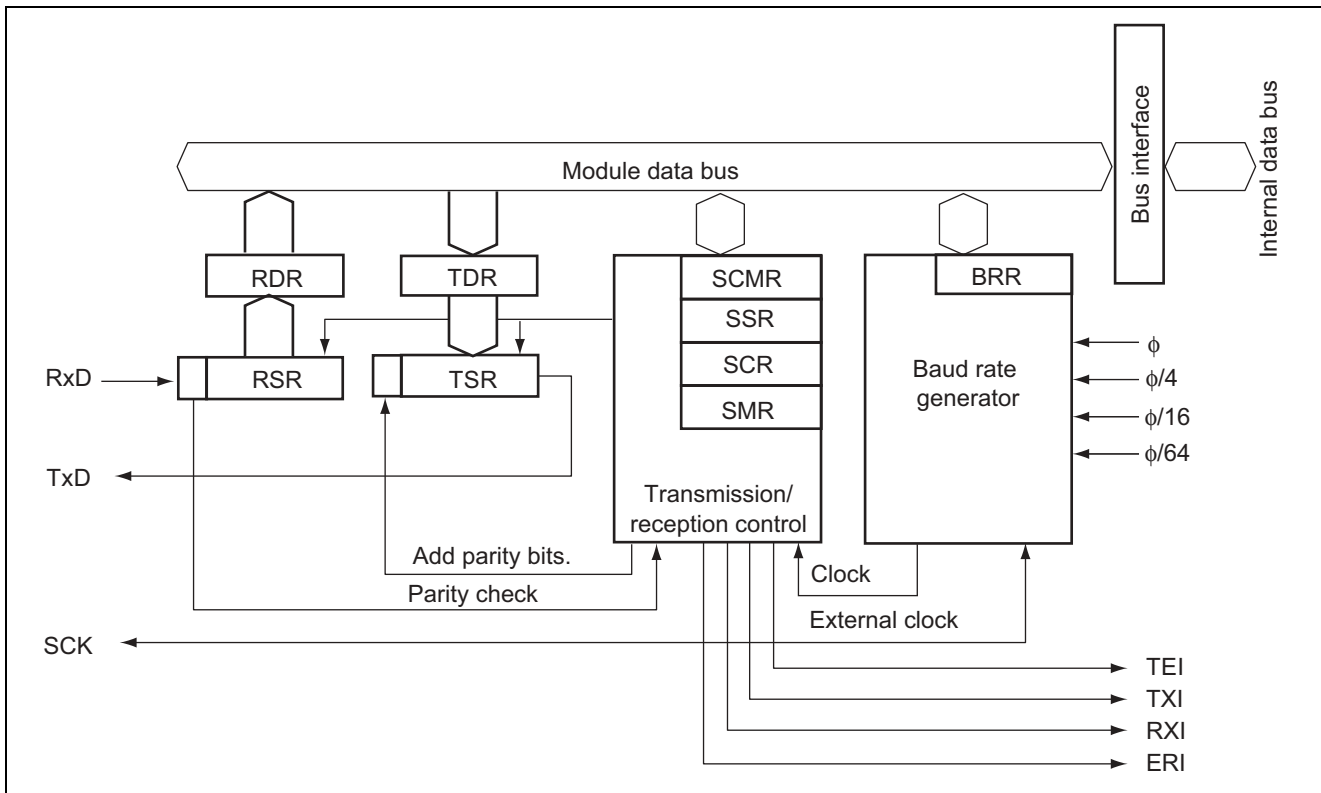

Figure 2 Block Diagram of Asynchronous Serial Data Transmission Function
1. Figure 2 shows a block diagram of the serial communication interface (SCI), and the following is the description for the block diagram: